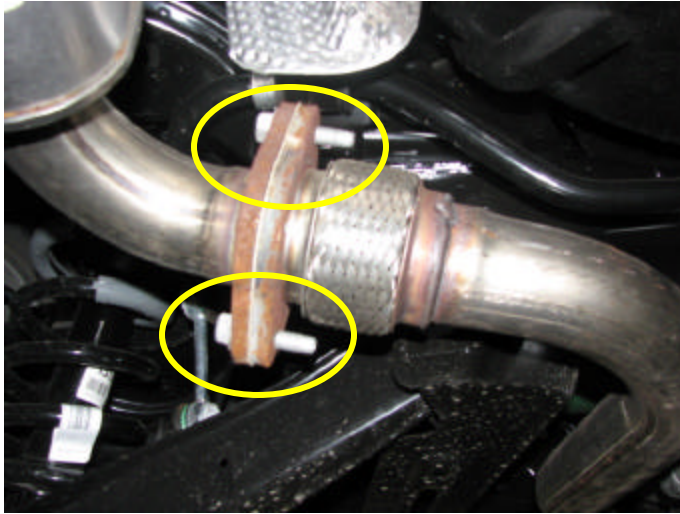

Figure 1: Factory bolts to be removed
- 2 Remove the two bolts behind each muffler as well as the gaskets and set aside to be reused later. See Figure 1 below.